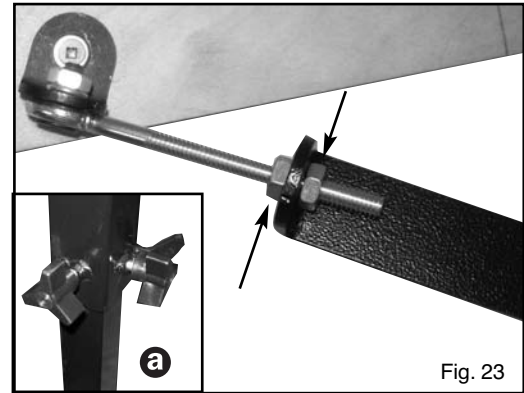

Fig. 23
6. If you notice any sag or if the extension table is not level with the main table, adjust the height of the support leg (Fig. 23, **a**) to support the added weight of the boom/hood assembly.
7. The diagonal braces can be tightened or loosened to allow the boom assembly to be levelled as needed by adjusting the nuts on the eye bolt. (Fig. 23)